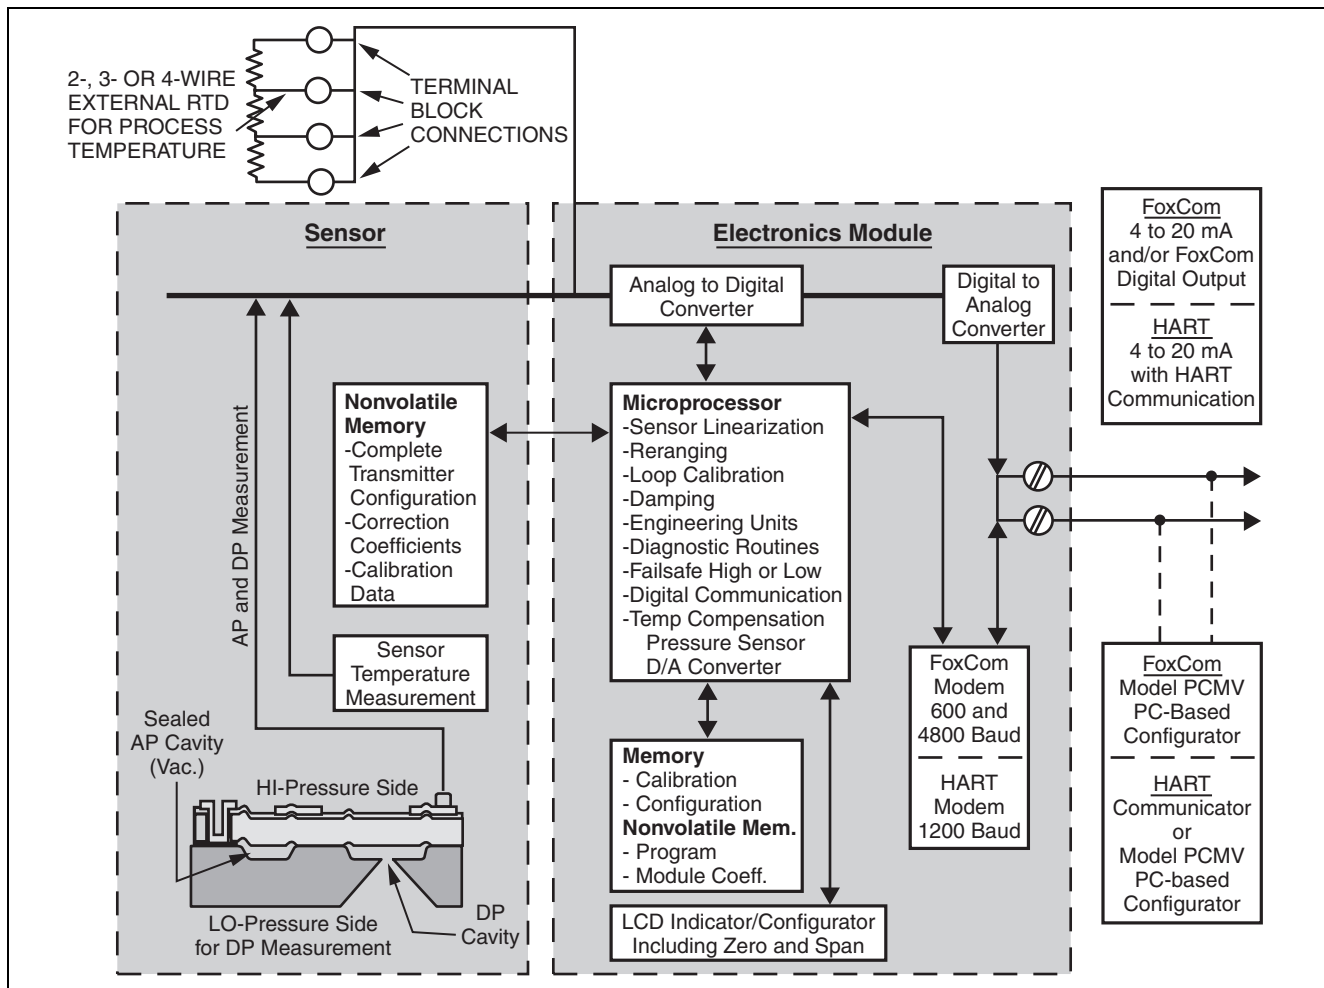

Figure 5. IMV30 FoxCom and HART Functional Block Diagram
(1) Refer to PSS 2A-1Z3 F for specifications relating to the Model PCMV Multivariable Transmitter Configurator.
(2) Density stated is at actual pressure and temperature, and based on known fluid parameters.
**DIGITAL COMMUNICATION (See Figure 5)**